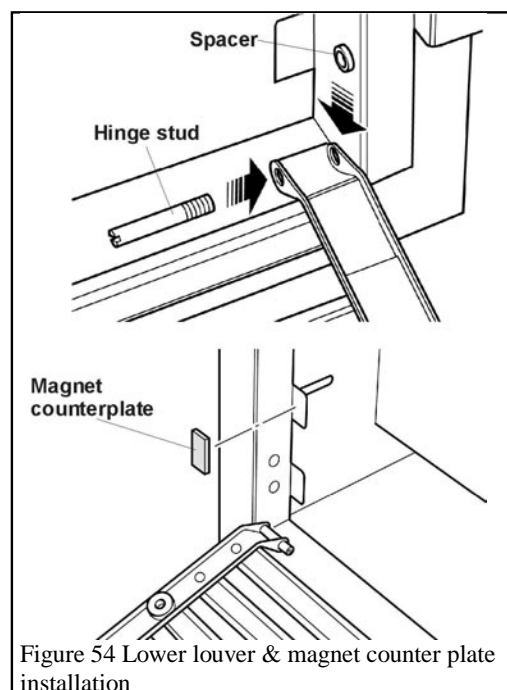

Figure 54 Lower louver & magnet counter plate installation
- Fit the lower louver unit using the hinge studs and hinge spacers as shown in figure 54.
- Fix the two adhesive backed magnet counter plates to the tabs at the firebox sides, which line up with the magnets on the lower louver. See figure 54.